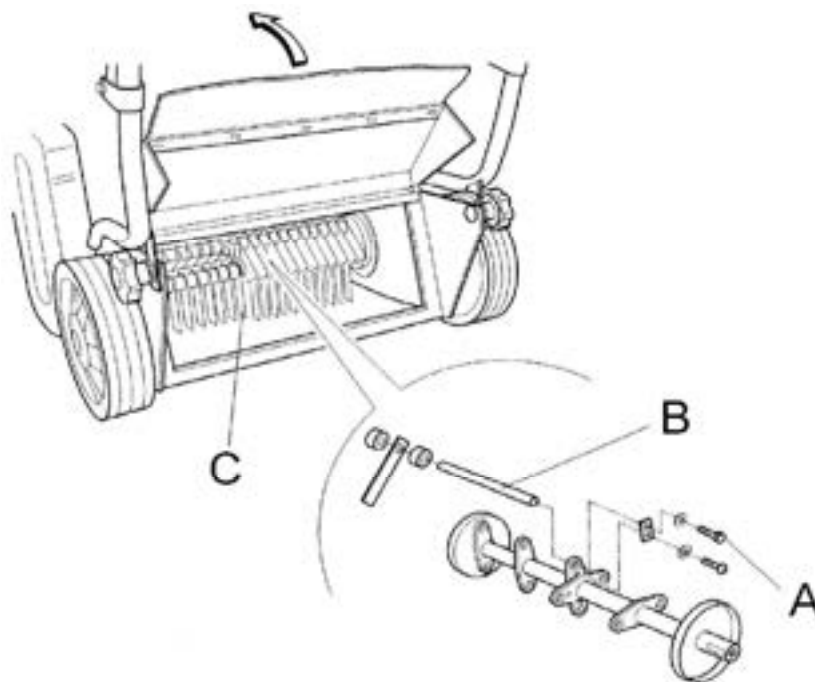

Figure 9
- During work operations if the blades (Fig. 9, ref. C) strike stones or stumps stop straightaway and make sure that they have not become bent or broken. Damaged blades must be replaced.
3. Check the condition of the blades (Fig 9 ref. C).
5. Unscrew the screw (Fig. 9 ref. A).
6. Remove the blade pin (Fig.9 ref. B).